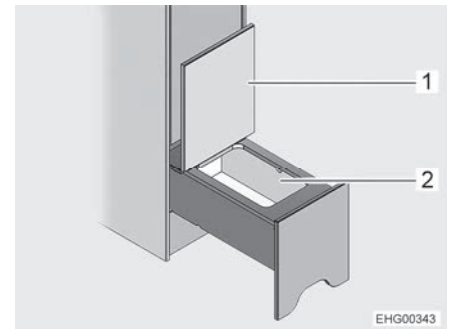

Fig. 83 Storage compartment
- Fold the lid (Fig. 83,1) up. The storage compartment (Fig. 83,2) is accessible.